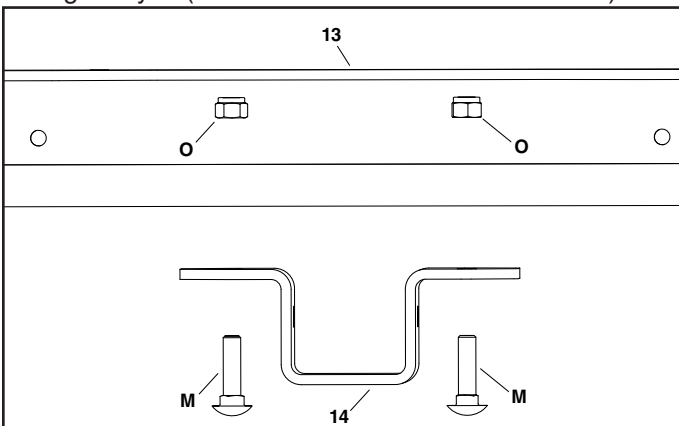

FIGURE 5
STEP 5: (SEE FIGURE 5)
- Attach the hitch mount bracket (14) to the bottom of the hopper mount bracket (13) using two carriage bolts (M) and two nylock hex nut (O). Do not fully tighten yet. (Make sure hole is closer to the rear)